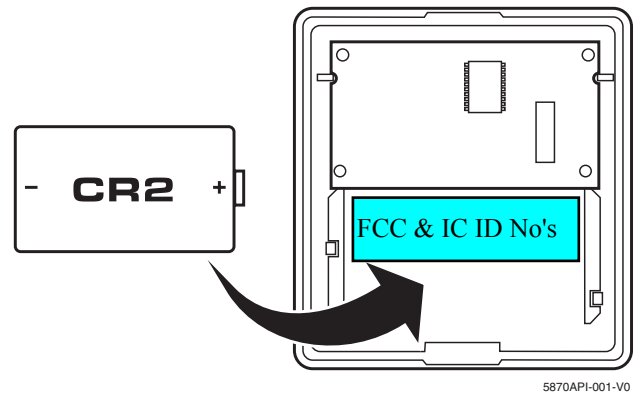

Figure 3 – Replacing the 5870API Battery
3. Check the battery polarity orientation before installing (see Figure 3).